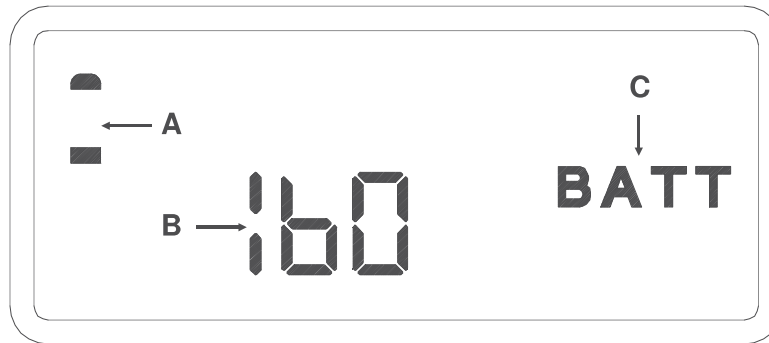

Figure 12
- B. The control displays the current through the DC heater measured by the control over a range of 9 to 21 amperes. (Figure 12 indicates 16 amps).